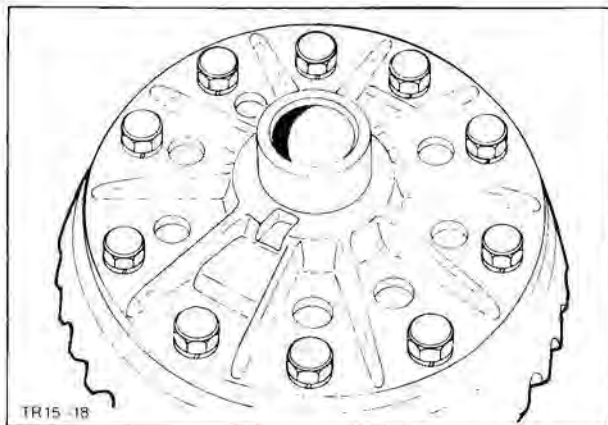

Fig. 28. Detach crown wheel from differential housing
8. Detach crown wheel from differential housing, Fig. 28 (10 bolts). To do this, slacken 3 bolts spaced out over the periphery (remove the remainder completely) so that the crown wheel can be removed by tapping the bolt heads.